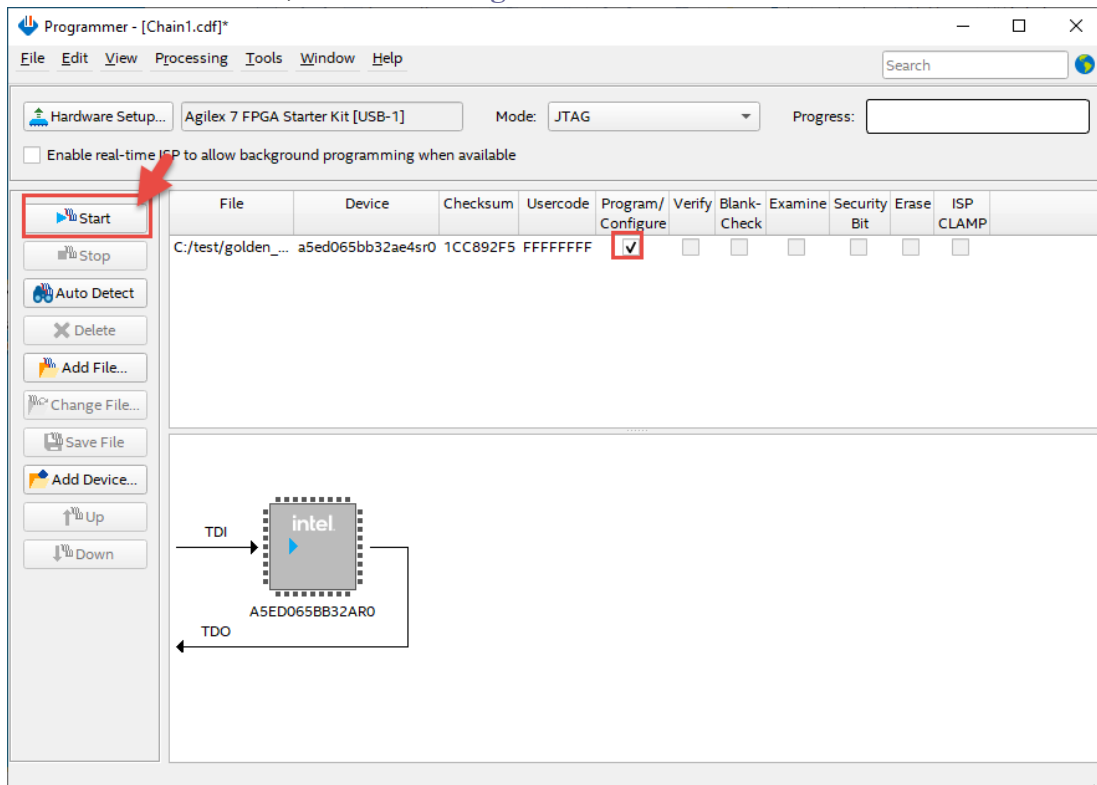

Figure 3-9 Program .sof file into the FPGA device
6. Click “Program/Configure” checkbox and then click “Start” button to download the .sof file into the FPGA device, as shown in **Figure 3-9**.